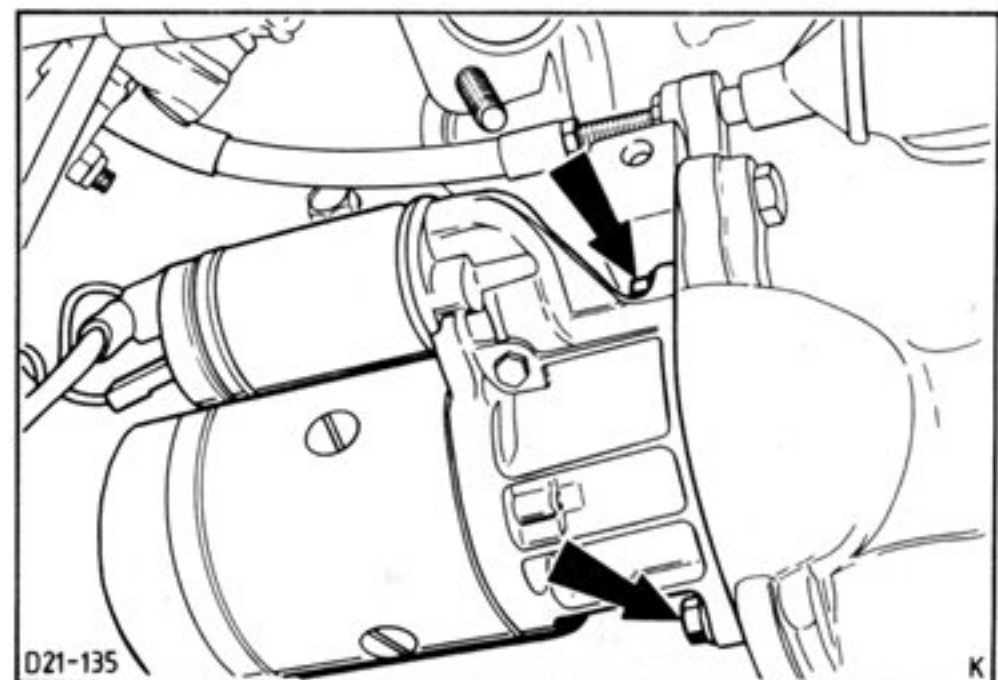

Fig.12. Remove starter motor.
14. Disconnect starter cable and remove starter motor (2 bolts), Fig.12.